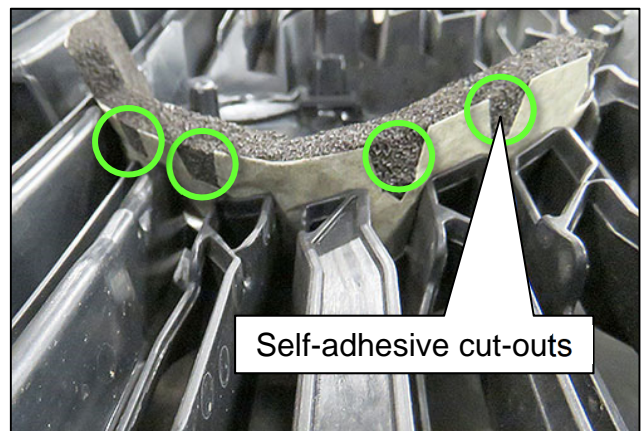
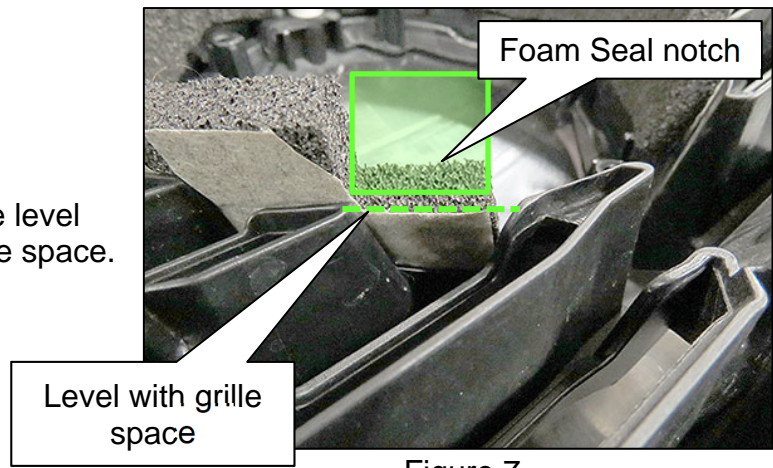

Figure 6
Figure 7
6. Continue attaching the foam as shown in Figure 6 and Figure 7 on page 6.